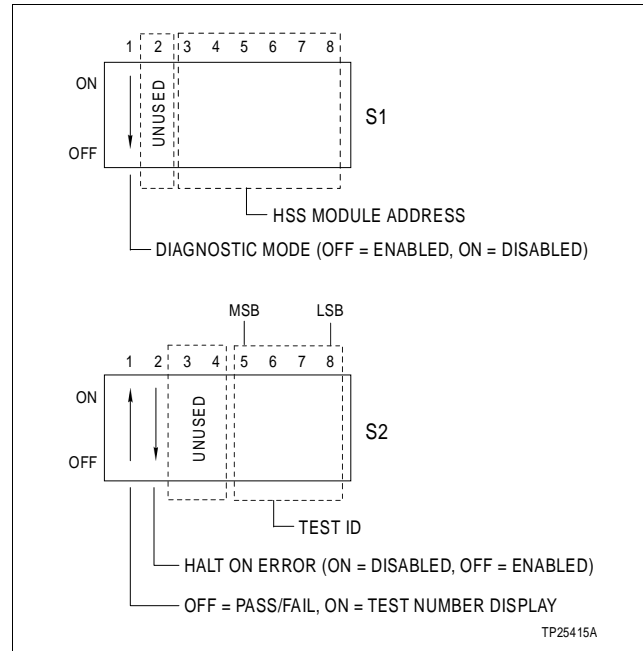

Figure 6-2. Diagnostic Dipswitch Settings
Pole one of dipswitch S1 puts the IMHSS03 module into diagnostic mode (see Figure 6-2). Poles eight through five of dipswitch S2 select the diagnostic test to run. Pole eight is the least significant bit (binary weight one), pole five is the most significant bit (binary weight eight). Test IDs range from zero to nine. Refer to Table 6-1 for test ID values.
- X = selects LED display mode. See Figure 6-2 for pole 1 settings.
- Y = selects halt on error or continuously loop the tests. See Figure 6-2 for pole 2 settings.
1. Set dipswitch S1 pole 1 to position 1 (off) to select the diagnostic mode (see Figure 6-2).
2. Set dipswitch S2 pole 1 to select the LED display mode. Figure 6-2 shows the display mode settings.
3. Set dipswitch S2 pole 2 to select the halt on error feature (see Figure 6-2).